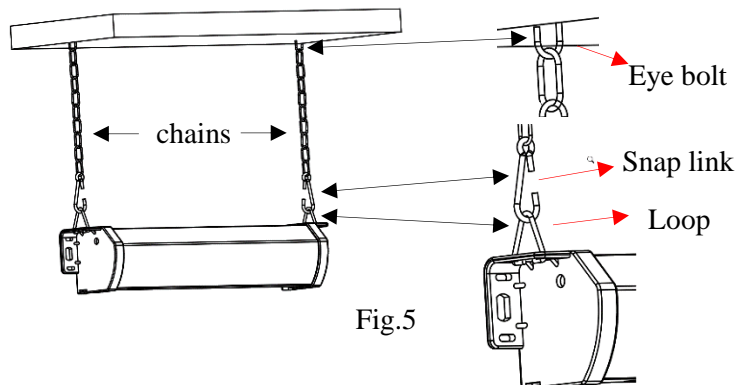

Fig.5
2. Mark, drill screw holes on the ceiling and install eye bolts on the ceiling (see Fig. 5).
3. Attach the chains to the eye bolts, attach a snap link to the chain and then to the loops on the screen (Fig. 5).